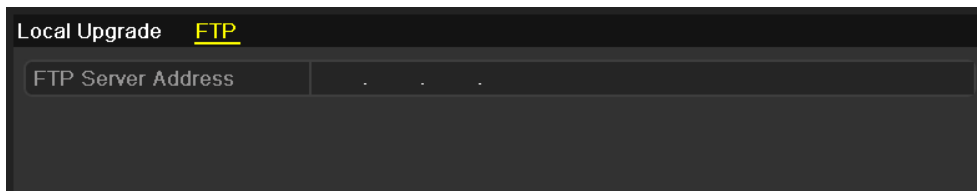

Figure 15-7 FTP Upgrade Interface
Step 2 Click the **FTP** tab to enter the local upgrade interface, as shown in Figure 15-7.